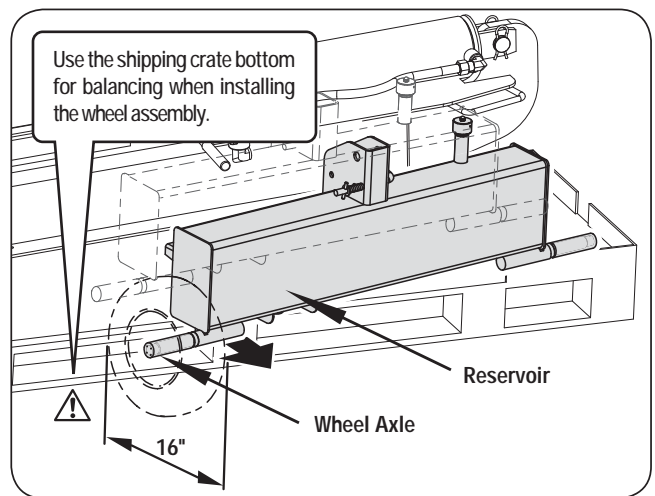

Figure 3b
2. Move the reservoir and let the side wheel axle outside of the pallet. (See *Figure 3b.*)